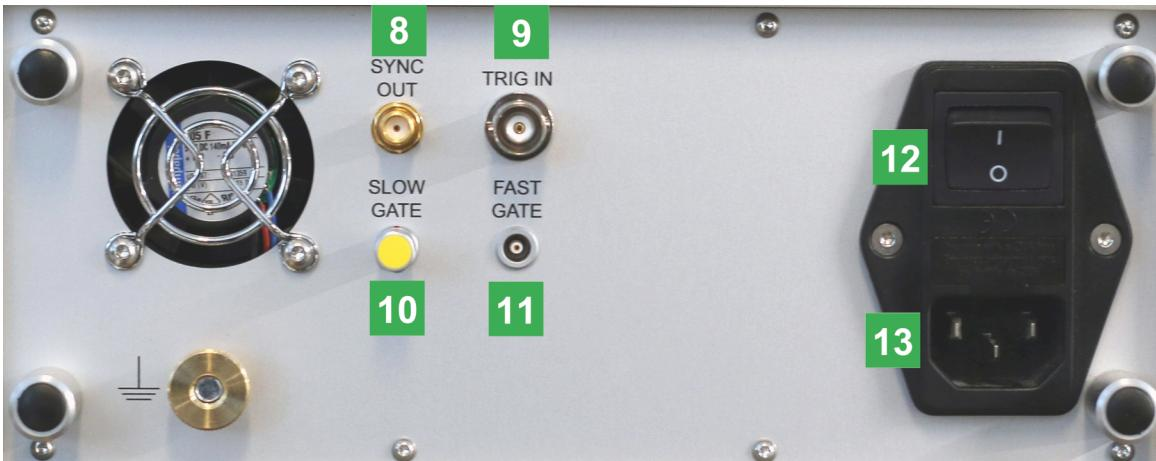

Figure 8: Sepia PDL 810 Back panel
- Switch on the main power using the switch on the back panel of the device, see item **12** in Fig. 8. The controller will then perform some internal checks, initialize the modules and finally enable the laser drivers. This will take no longer than 45 seconds.
- Turn the key switch **3** to the horizontal position (ON).
- The synchronization output of the laser driver, see item **8** in Fig. 8, delivers a synchronization signal along with each laser pulse. This synchronization output is particularly helpful in independent operation. It can be connected to the detection electronics such as, e.g., a TCSPC module from PicoQuant. A suitable LEMO-SMA or LEMO-BNC adapter cable can be obtained from PicoQuant. The shortest possible pulse width can be achieved in this configuration and the drift between synchronization signal and optical pulse will be at its lowest.
- Another independent mode of operation is the **continuous (CW) mode**. It can be used with any CW mode compatible laser heads from PicoQuant, such as the **LDH-D-C** series.
- Each *Sepia PDL 810* can be triggered externally by a suited NIM compatible trigger signal connected to the trigger input *TRIG. IN*, see item **9** in Fig. 8.
The fast gate function affects the trigger input line **TRIG. IN**, see item **9** in Fig. 8. It is thus only effective when the module is being triggered from an external source. The FAST GATE gate input will have no effect if either the internal oscillator is active or if the laser is operated in CW mode.
To use this gating mechanism, connect a active-low TTL signal to the “FAST GATE” connector, see **11** in Fig. 8. The input has an internal pull-up resistor to “High” level.
The SLOW GATE input is isolated by an opto-coupler and a current must be fed into the input to activate the laser. When this gating function is not used, the yellow LEMO connector stub (included with the device) must be plugged into the “SLOW GATE” connector, see **10** in Fig. 8 to keep the laser always active.